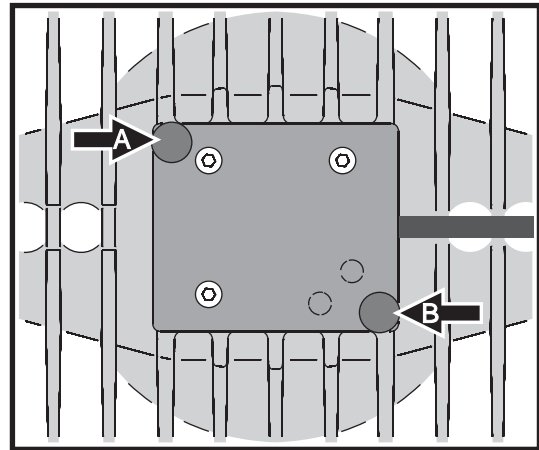

Figure 2: Lamp access cover retaining screws
- The lampholder is an integral part of the lamp access cover. See Figure 2. Remove the two Torx screws **A** and **B** from the lamp access cover and lift the cover gently away from the fixture until the lamp is clear. Avoid straining the lamp wiring.